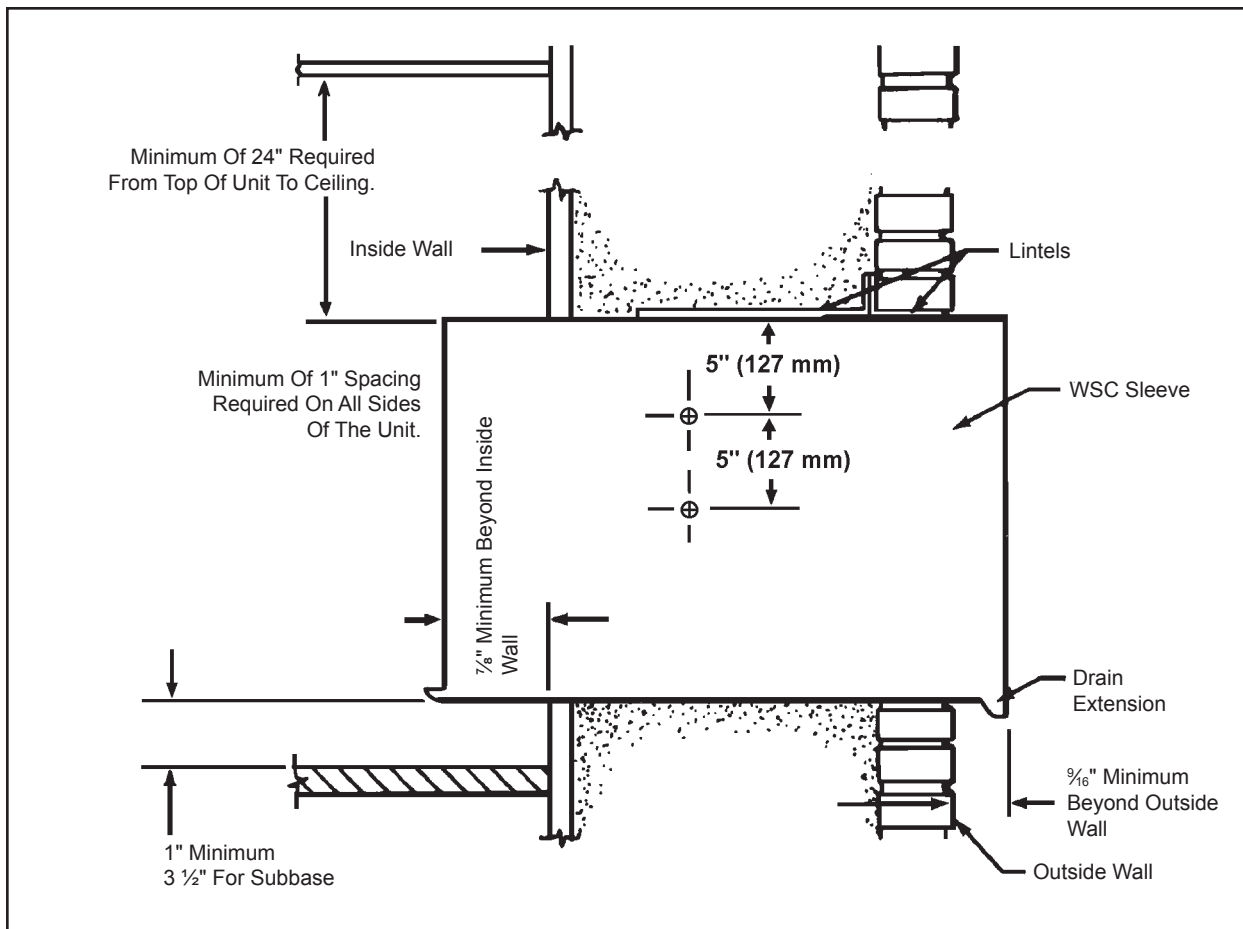

Figure 7
- STEP 1** The WSC SLEEVE should be positioned so that the DRAIN EXTENSION extends a minimum of  $\frac{1}{8}$ " beyond the OUTSIDE WALL (See Figure 7).
- STEP 1** After unpacking the WSC SLEEVE from the carton, remove the corrugated FRONT PANEL. Place the WSC SLEEVE in the wall opening following the instructions given in the INSTALLATION REQUIREMENTS. Attach the SLEEVE to the INSIDE WALL by driving two #12A x 2" screws in each side of the SLEEVE (see Figure 7). Shim at the top of the SLEEVE, midway between the sides. Drive one #12A x 2" screw in the top of the sleeve, close to the shim. Install screws from inside the SLEEVE. If the wall opening is not framed with wood, use expansion anchor bolts or molly (toggle) bolts (not provided).